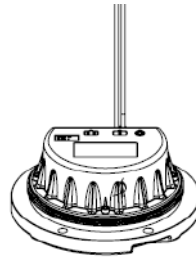

Figure 5-15
- Install the inner cover to a correct position on the upper cover and screw the screws (see Figure 5-15).